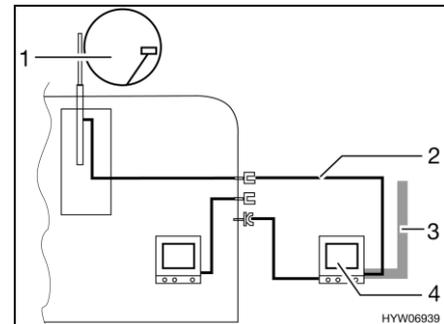

Fig. 203 TV in the awning
- TV inside the awning (Fig. 203,4): Connection to roof antenna (Fig. 203,1) with connection cable (Fig. 203,2)
- TV inside the awning (Fig. 203,4): Connection to external antenna (Fig. 203,3)